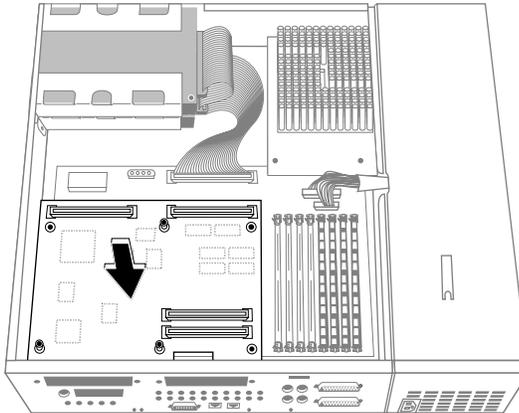

Figure 2-14 Positioning the Graphics Board Over the System Board
3. Connect the graphics board to the system board, as shown in Figure 2-14.